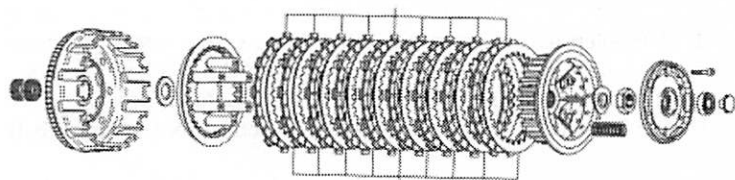
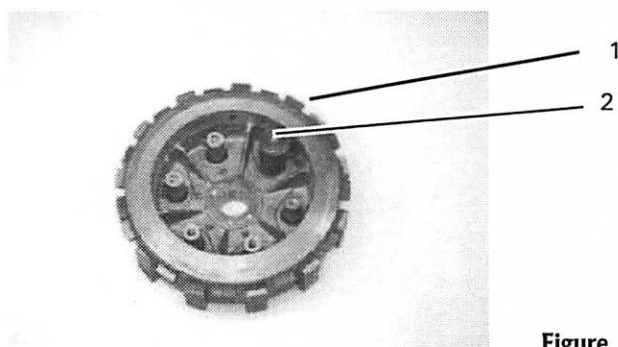

Figure 108
Figure 111
Refer to Figure 108 when installing the clutch.
3. Preassemble the clutch plates onto the inner plate (11, Figure 108) and clutch hub (8, Figure 108) in the order shown in Figure 108. After assembling and aligning the clutch assembly (1, Figure 111), secure it in place with a clutch spring, Allen bolt and large flat washer (2, Figure 111).